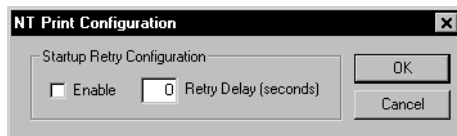

Figure 8.4 NT Print Configuration dialog box
2. Click the **Configure** button. The NT Print Configuration dialog box appears, as shown in Figure 8.4.